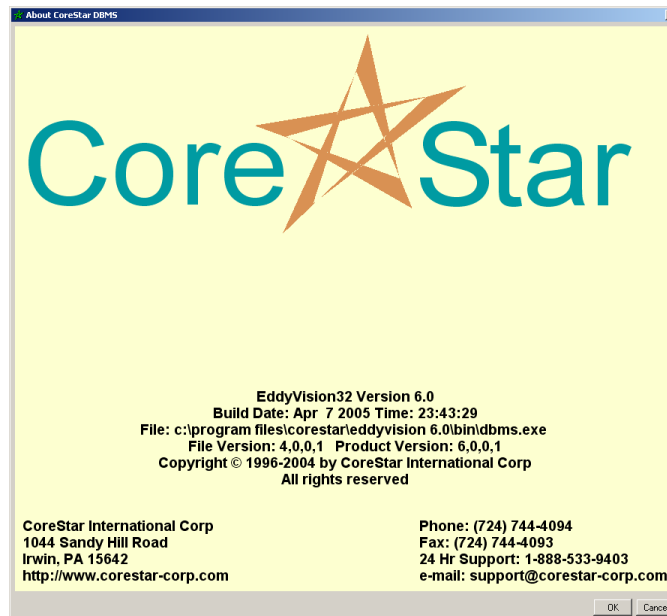

Figure 59. Help | About DBMS Dialog
- **Help | About DBMS** displays the **About** dialog shown in Figure 59. This dialog includes software version and technical support information.